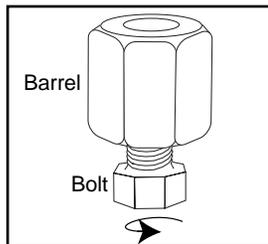

Figure 1 - Insert Bolt and place in upright position.
1. Insert one bolt into the barrel (*Figure 1*). Advance carefully in a clockwise direction until the bolt end is halfway into the chamber.